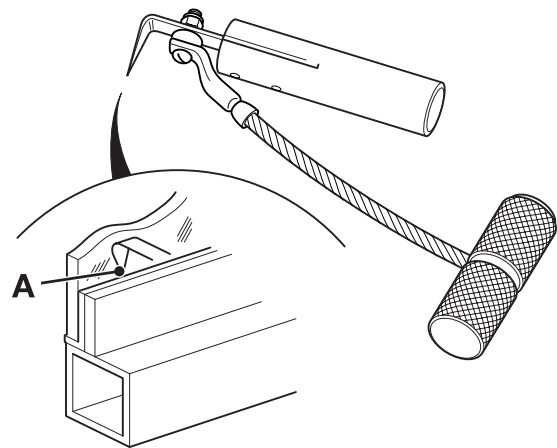

Fig 9. Cut-out Knife
- c Cut-out Knife. → Fig 9. \(□ B-6\). The cut-out knife can be used as a left handed or right handed tool.